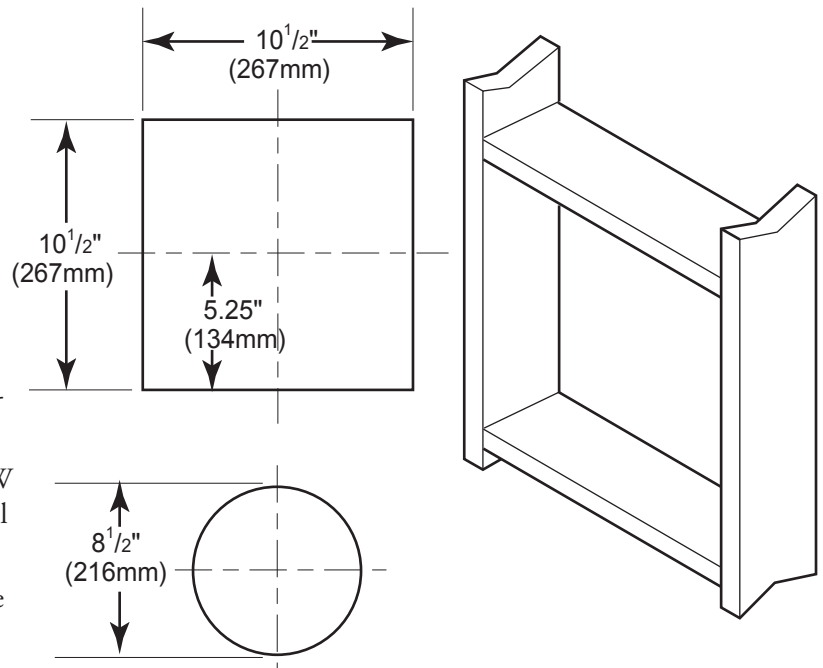

Figure 12 - Vent Opening Requirements
Combustible Walls: Cut a 10½"H x 10½" W (267mm x 267mm) hole through the exterior wall and frame as shown. See Figure 12.
1. Establish vent hole through the wall. *See Figure 12, page 17.*